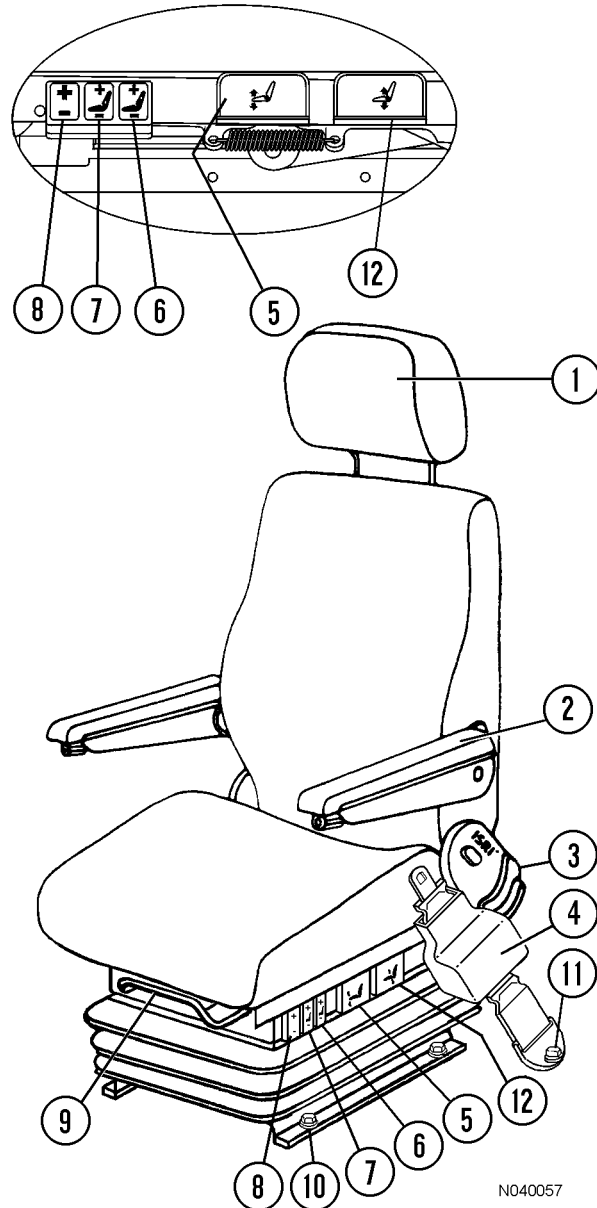

FIGURE 32-5. OPERATOR'S SEAT ADJUSTMENT CONTROLS
1. **Headrest:** (1, Figure 32-5) will move up, down, fore, or aft by moving headrest to desired position.
3. **Backrest:** Lift handle (3) to release and select backrest angle: release control handle to set.
4. **Seat Belt:** Operator should always have seat belt (4) buckled in place and properly adjusted whenever vehicle is in motion.
5. **Seat Slope:** Lift lever (5) and hold to adjust the slope of the seat. Release lever to lock adjustment.
6. & 7 **Air Lumbar Support:** Each rocker switch (6 or 7) controls an air pillow. Switch (7) controls the lower air pillow and switch (6) controls the upper air pillow. To inflate, press on top of rocker switch and hold for desired support, then release. To deflate, press on bottom of rocker switch and hold for desired support, then release. Adjust each pillow for desired support.
8. **Seat Suspension:** Press rocker switch (8) on top to increase ride firmness. Press on lower part of rocker switch to decrease ride firmness.
9. **Fore/Aft Location of Seat:** Lift lever (9) and hold. Bend knees to move seat to a comfortable position: release control lever to lock adjustment.
12. **Seat Height:** Lift lever (12) and hold to adjust the height of the seat. Release lever to lock adjustment.